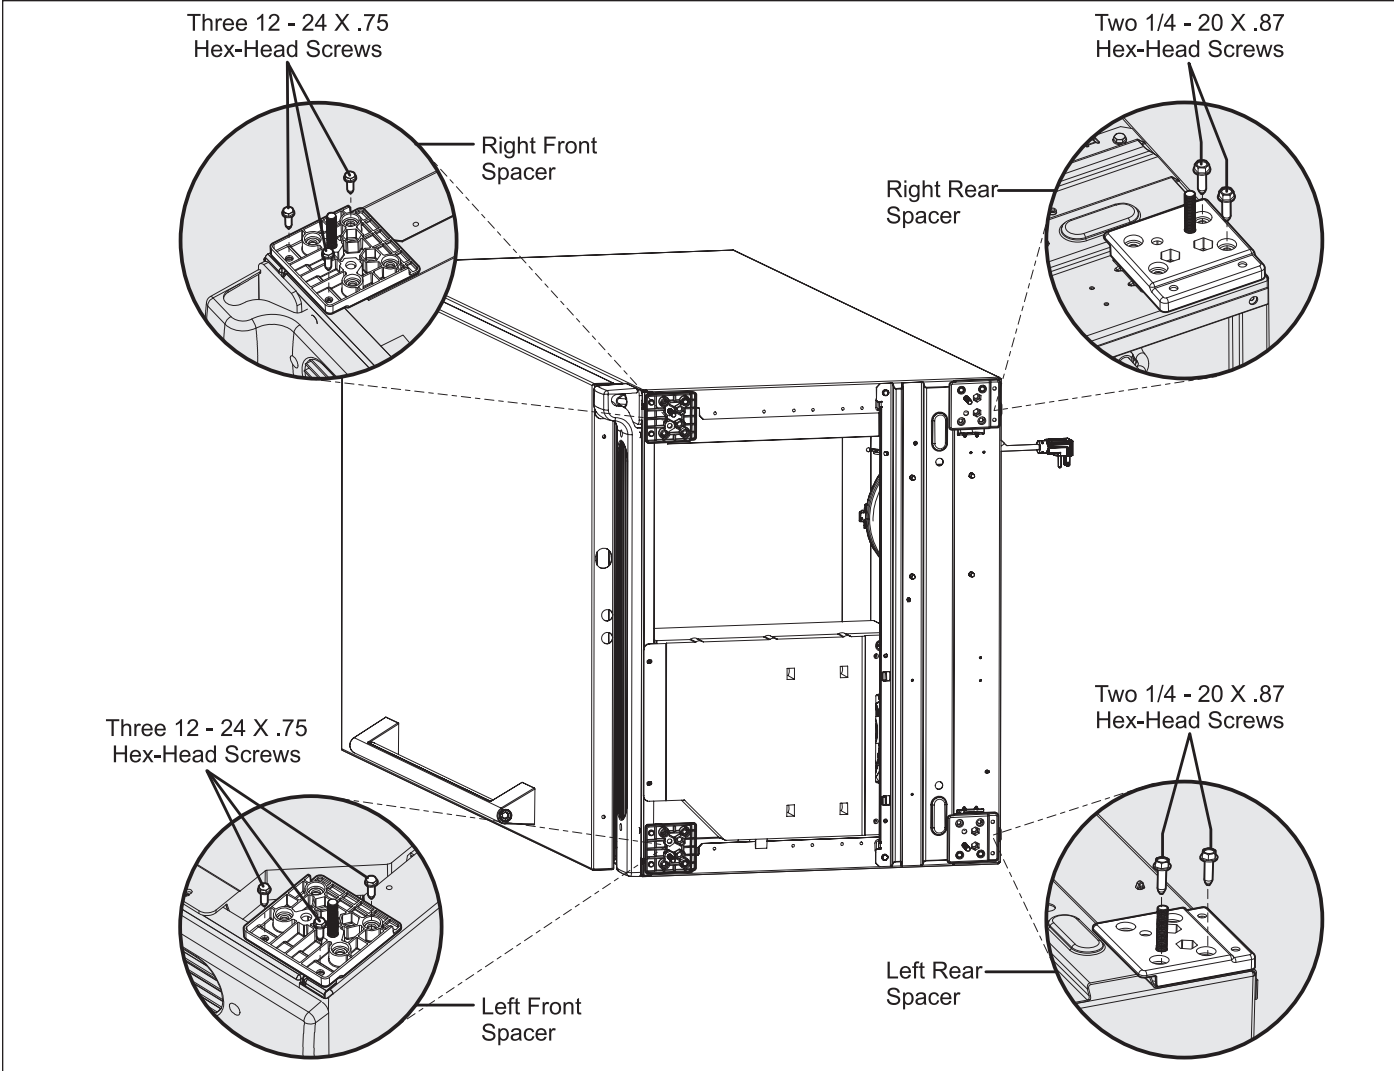

Figure 2-23.
5. Using three HWD #12-24 X .70 screws, fasten the right front Riser Kit Spacer & Hex Bolt Assembly as shown in Figure 2-23.
6. Using three HWD #12-24 X .70 screws, fasten the left front Riser Kit Spacer & Hex Bolt Assembly as shown in Figure 2-23.
7. Using two HWD 1/4 -20 x .87 screws, fasten the right rear Riser Kit Spacer & Hex Bolt Assembly as shown in Figure 2-23.
8. Using two HWD 1/4 -20 x .87 screws, fasten the left rear Riser Kit Spacer & Hex Bolt Assembly as shown in Figure 2-23.